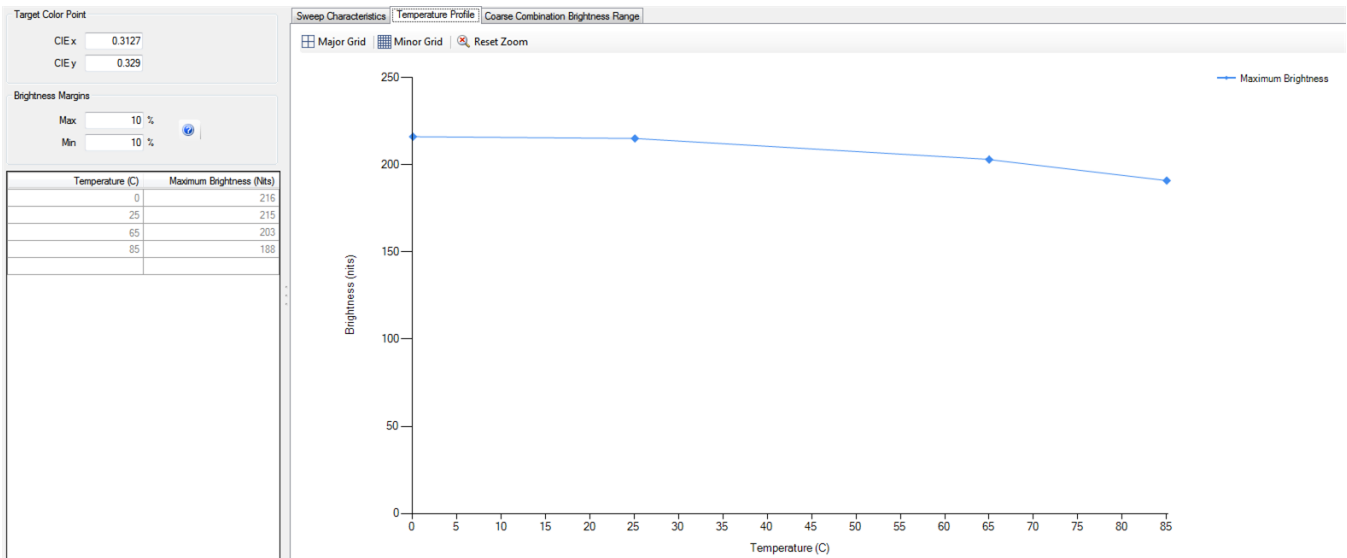

Figure 6-8. Brightness Output vs Temperature
13. The "Temperature Profile" tab displays the maximum brightness achievable at a given color point and temperature in graph form. Figure 6-8 shows an example.